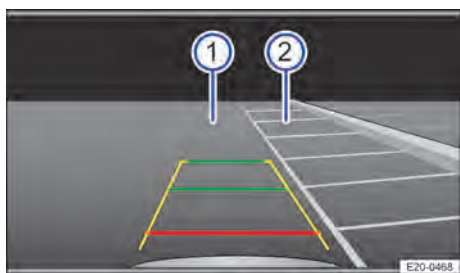

Fig. 128 Infotainment system screen display: selecting a parking space.
3. Position the vehicle in front of the parking space → Fig. 128 ②.